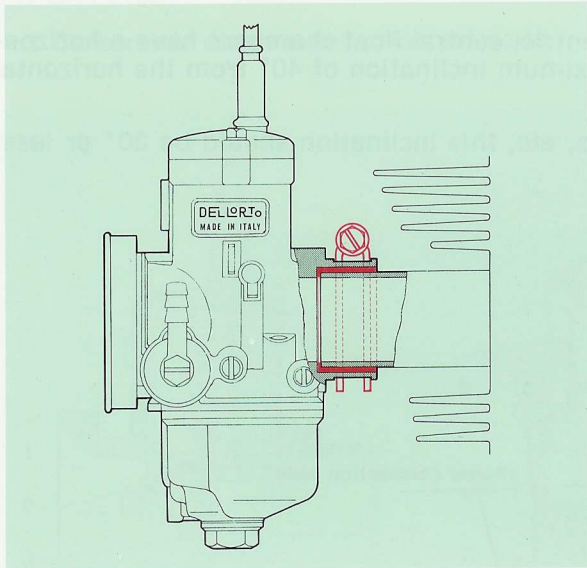

fig. 5
- B-female clamp fixing** (figure 5)
Note that the female clamp fixing and the flange connection, as you can see in figure 5 and 6, there is also the need to provide both effective heat insulation and a perfect airtight seal.